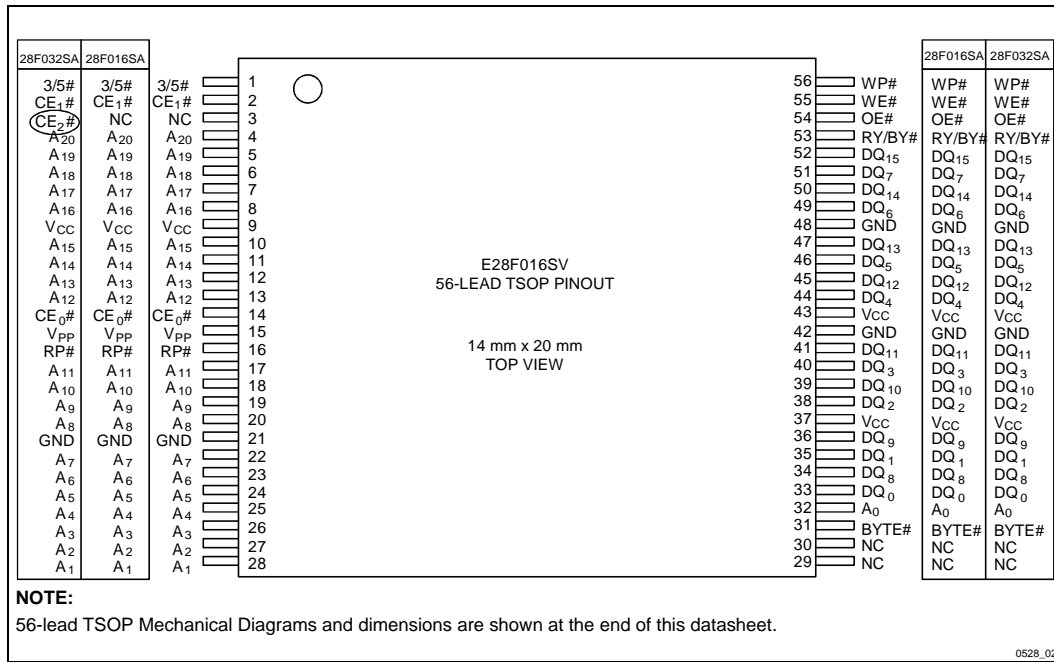

Figure 2. 28F016SV 56-Lead TSOP Pinout Configuration Shows Compatibility with 28F016SA/28F032SA
-004	<p>Added 3/5# pin to Block Diagram (Figure 1), Pinout Configurations (Figures 2 and 3), Product Overview (Section 1.1) and Lead Descriptions (Section 2.1)</p> <p>Added 3/5# pin to Test Conditions of ICCS Specifications</p> <p>Added 3/5# pin (Y) to Timing Nomenclature (Section 5.5)</p> <p>Increased t_{PHQV} Specifications at 5V V_{CC} to 400 ns for E28F016SV 065 devices and 480 ns for E28F106SV 070 devices.</p> <p>Modified Power-Up and Reset Timings (Section 5.9) to include 3/5# pin: Removed t_{5VPH} and t_{3VPH} specifications; Added t_{PLYL}, t_{PLYH}, t_{YLPH}, and t_{YHPH} specifications</p> <p>Added t_{PHEL3} and t_{PHEL5} specifications to Power-Up and Reset Timings (Section 5.9)</p> <p>Corrected TSOP Mechanical Specification A₁ from 0.50 mm to 0.050 mm (Section 6.0)</p> <p>Corrected SSOP Mechanical Spec. B (max) from 0.20 mm to 0.40 mm (Section 6.0)</p> <p>Minor cosmetic changes throughout document.</p>
A significant 28F016SV change occurred between datasheet revisions 290528-003 and 290528-004. This change centers around the addition of a 3/5# pin to the device's pinout configuration. Figures 2 and 3 show the 3/5# pin assignment for TSOP and SSOP Type 1 packages. Intel recommends that all customers obtain the latest revisions of 28F016SV documentation.
The 28F016SV 56-lead TSOP and 56-lead SSOP Type I pinout configurations are shown in Figures 2 and 3.